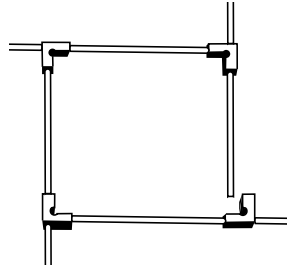

Figure 1: Corner assembly.
1. Thread the ends of three of the four longer rods into the corner clamps. Slide the four rods through the unthreaded holes in the three corner clamps so that they form a square, as shown in **Figure 1**. Slide the fourth corner clamp onto one of the rods so that it completes the fourth corner of the square. Thread the end of the fourth rod onto it.